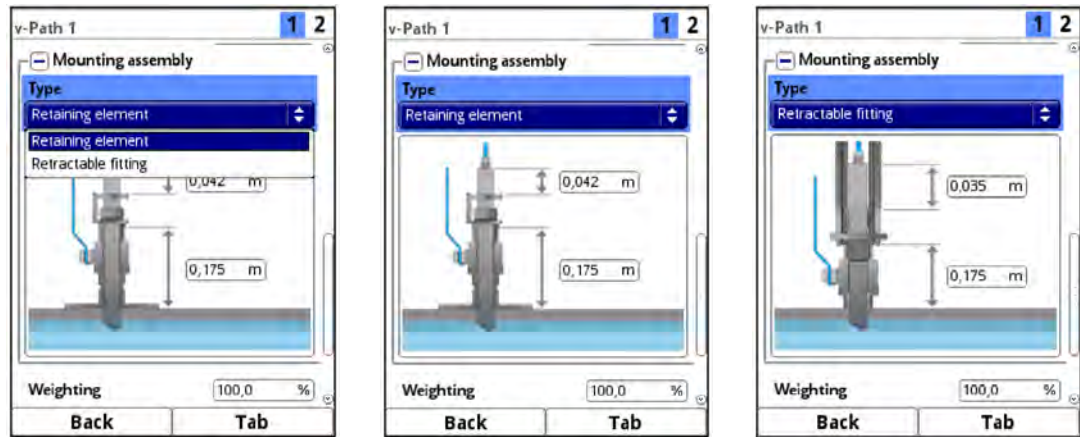

Fig. 34-15 Securing element and Extraction Tool for sensor Type NIS-V200R
- Securing element (Fig. 34-15 Fig. 2) or
- Extraction Tool (Fig. 34-15 Fig. 3)